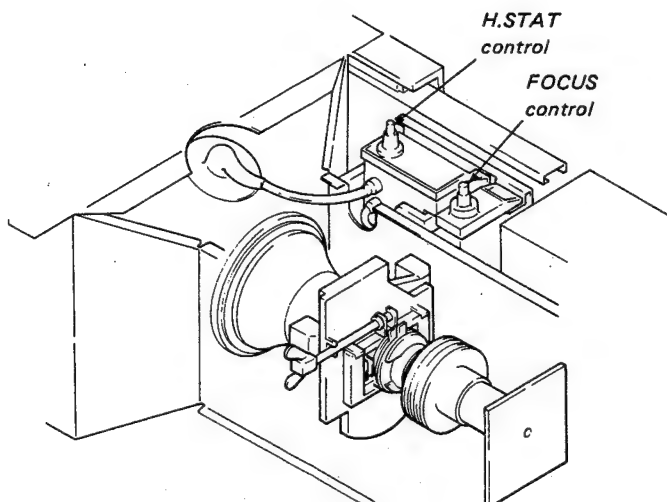

Fig. 1-5.
3. Adjust the FOCUS control for best focus in the central portion of the screen as shown in Fig. 1-5.